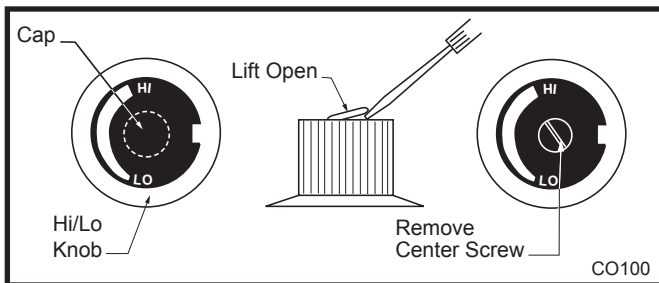

Fig. 21 Remove center screw from Hi/Lo knob.
1. Remove cap from HI/LO knob. This can be accomplished by lifting the plastic cap off the screw. (Fig. 21)
2. Remove the screw from center of HI/LO knob with small screwdriver turning counterclockwise. (Fig. 21)